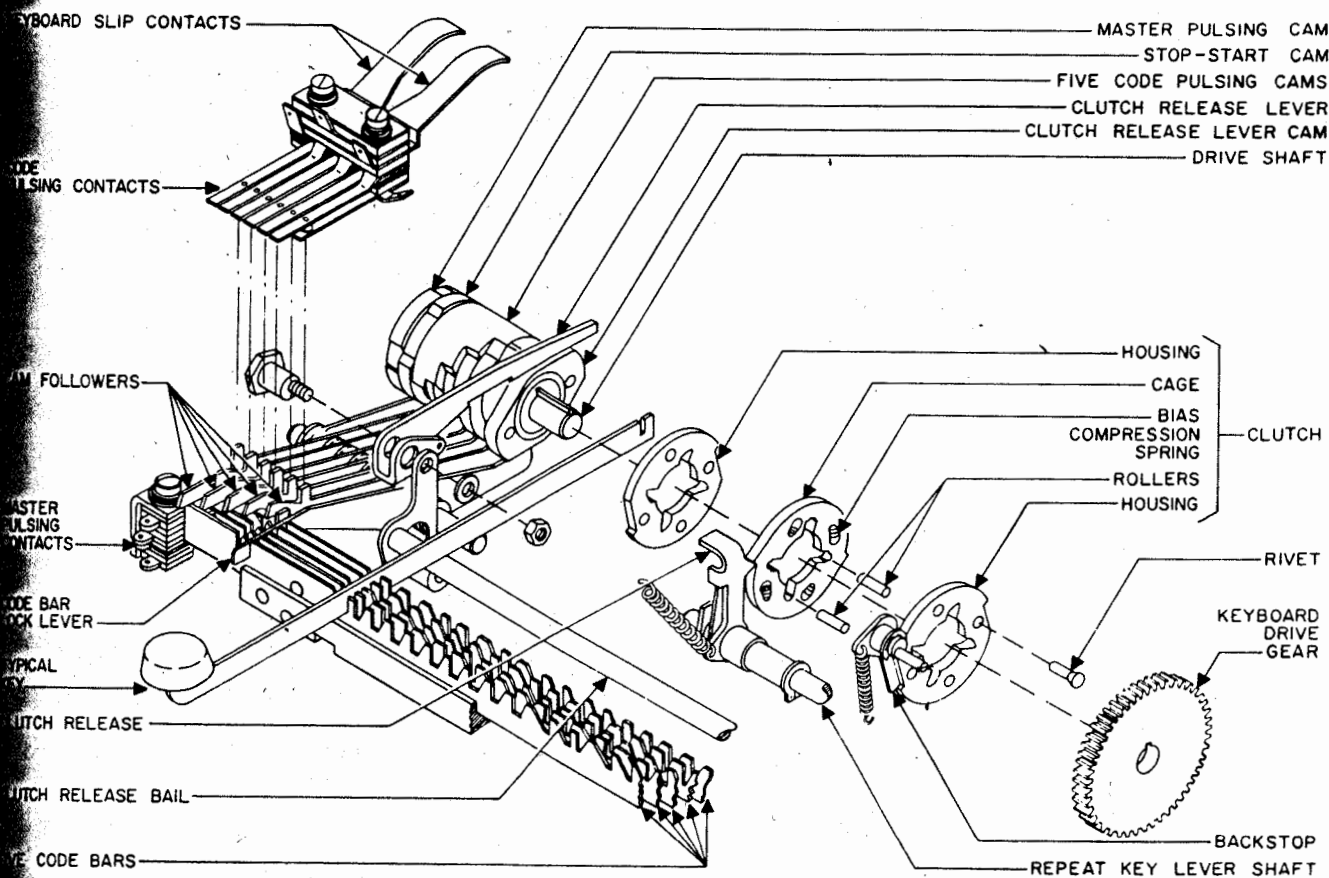

Figure 4-7. Keyboard TT-318/UG (1A9), Mechanical Diagram
(1) MECHANICAL FUNCTIONS. — Keyboard TT-318/UG(1A9) (figure 4-7) consists of a keyboard drive gear (coupled to the printer motor), a drive shaft which rotates continuously as long as the motor power is applied, a clutch mechanism coupled to a set of five code pulsing cams, code pulsing contacts, and a set of five code bars which set up the mechanical code appropriate to the selected character or function.
The clutch, which is mounted on the drive shaft (figure 4-7), consists of two housings, a cage, four rollers, two bias compression springs, and two spacers. The housings and the cage are connected by four rivets and two spacers so that the housings are rigidly connected and the cage is free to rotate approximately 20 degrees around the drive shaft in relation to the housings. Bias compression springs between the cage and the spacers separating the housings bias the housings in the direction of clutch travel. The four rollers pass through the four slots in the cage and both housings. The slots in the cage fit snugly around the rollers and permit the rollers
Depressing a keyboard key or space bar moves the five separate code bars (figure 4-7) according to the alignment of a particular set of Baudot-code slots into which the key drops and moves the clutch release bail downward. As the clutch release bail moves, it pulls the clutch release toward the front of the keyboard. The clutch release, which is engaged with the cutout in the clutch release lever, is then moved away from the stop tab on the cage, allowing the clutch to become engaged and to begin rotating the pulsing cam nest. The clutch release lever cam rotates and raises the clutch release lever. This movement pulls the spring connected between the clutch release lever and the clutch release, thereby holding the finger close to the surface of the cage as the cage rotates.